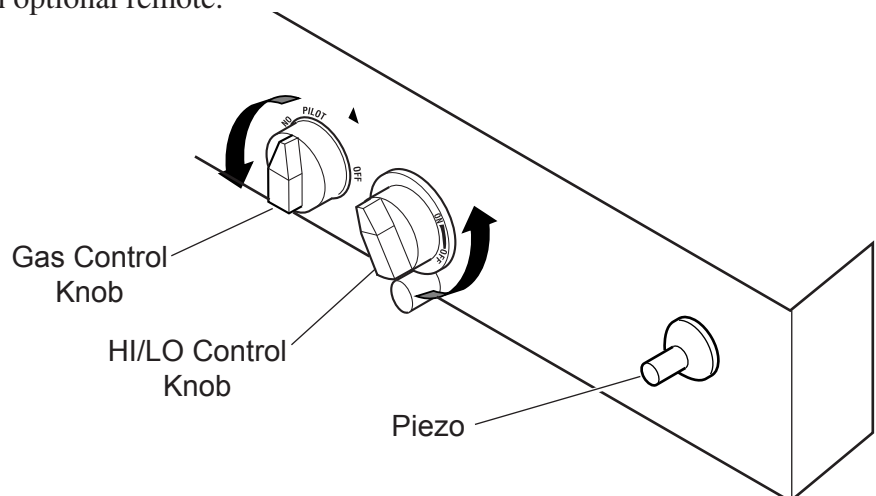

Figure 39 - Control Cover Plate for Hi/Lo
11. Control flame with Hi/Lo control knob. See *Figure 39*.